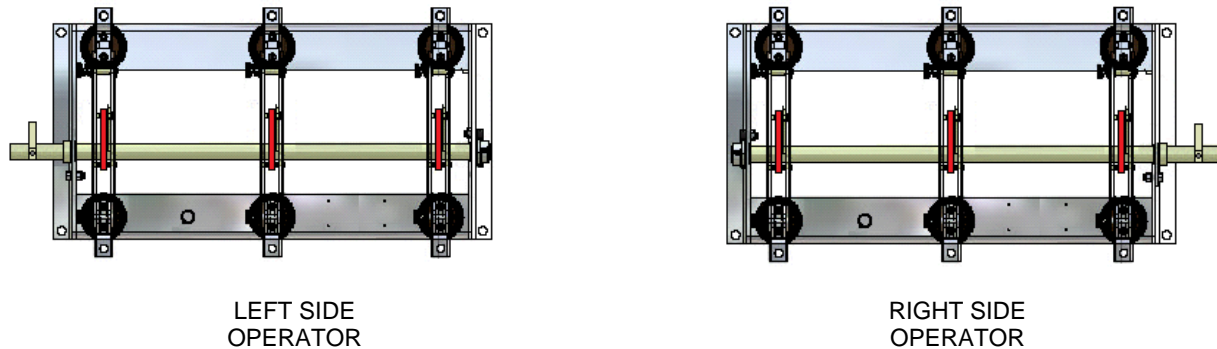

Figure 1
* The operator position refers to the normal mounting position as shown in Figure 1.